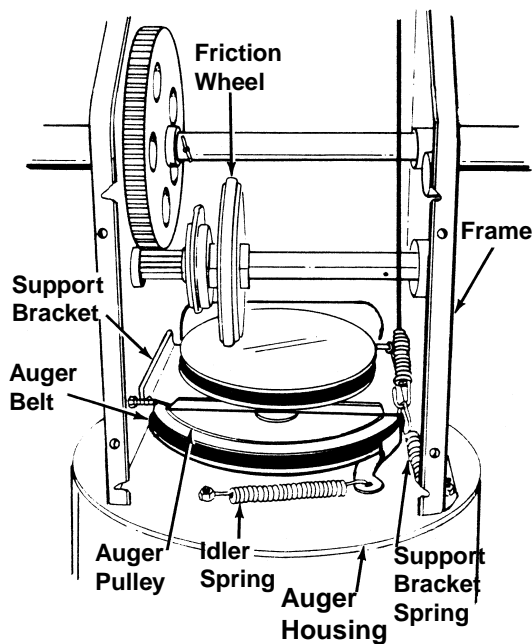

Figure 22
- Unhook the idler spring from the hex bolt on the auger housing. See Figure 22.
- Lift the rear auger belt from the auger pulley, and slip belt between the support bracket and the auger pulley. See Figure 22. Repeat this step for the front auger belt.